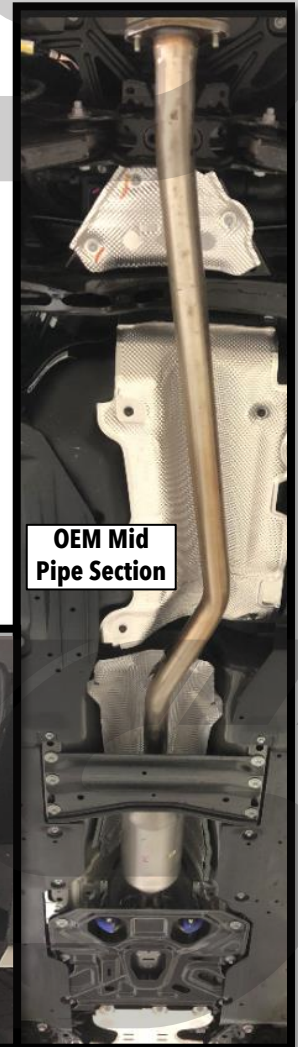

Figure 2a
b) Raise the rear of the vehicle with a hydraulic floor jack, then support with jack stands. You will need to access the midpipe & axle back exhaust sections. Shown in Figure 2a.